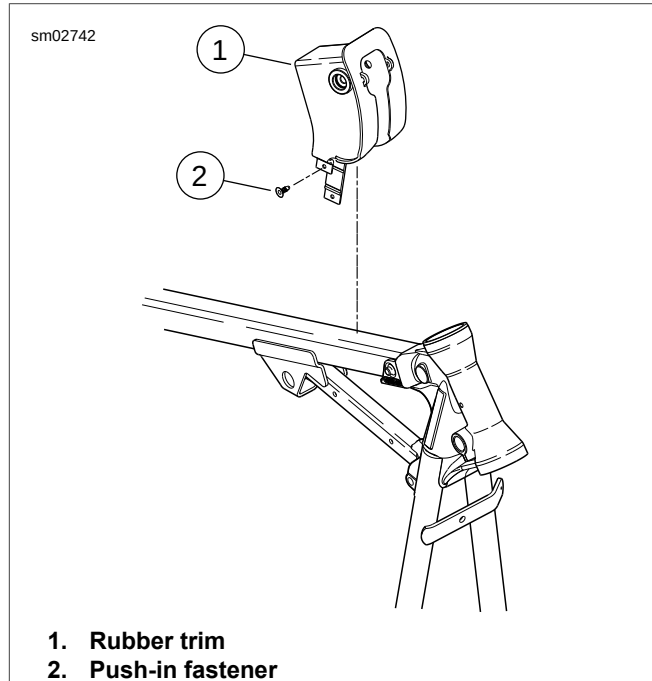

Figure 7-104. Rubber Trim
15. See Figure 7-104. Remove push-in fastener (2) from rubber trim (1) on frame. Disconnect connectors:
4. See Figure 7-104. Install push-in fastener (2) to rubber trim (1) on frame.